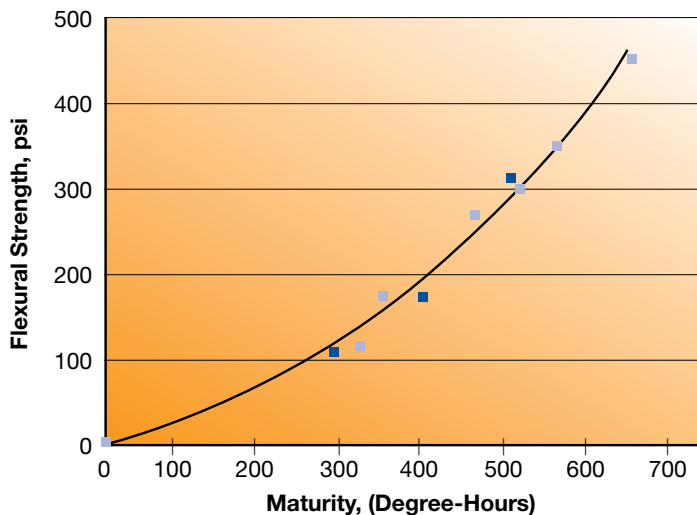

Figure 1: 4x4 Concrete: I-5 in Los Angeles
4x4 Concrete system. The flexural strengths and calculated temperature-time data, in degree-hours, are presented graphically in Figure 1.
- 6) Graph the degree-hour and strength data as shown in Figure 1.